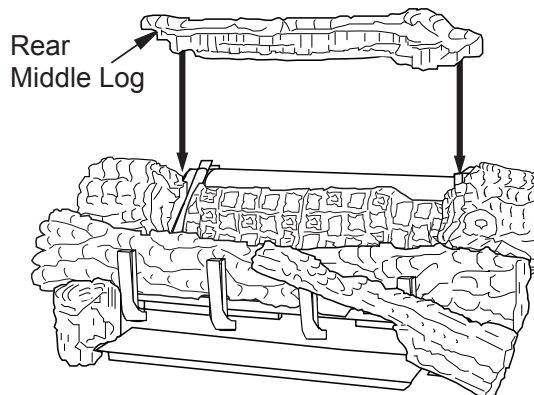

Figure 35 - Installing Rear Middle Log
8. The rear middle log should fit between the ramp log and the rear burner. The left and right middle logs have recessed areas for the rear middle log to sit into (See **Figure 35**). Be careful not to push the rear burner out of position while installing this log.